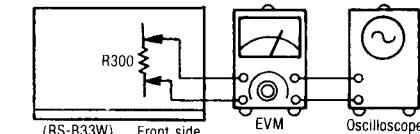

Fig. 9
1. Test equipment connection is shown in fig. 9.
1. Test equipment connection is shown in fig. 9. 2. Place UNIT into metal tape mode. 3. Press the record and pause buttons. 4. Read voltage on EVM and calculate erase current by following formula: